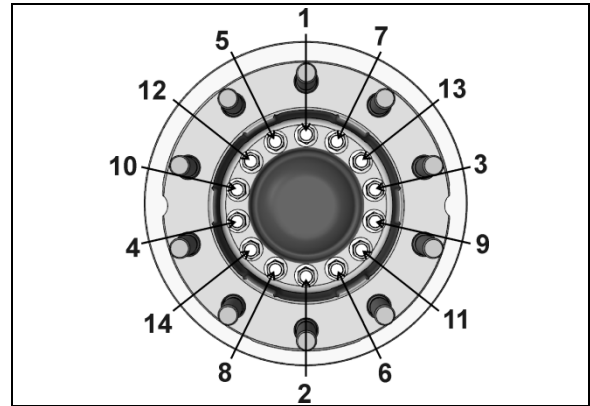

FIGURE 23: HUB FLANGE HEX CAP SCREW TIGHTENING SEQUENCE
12. Secure hub flange and rotor to unitized hub bearing using 14 hub flange cap screws. Torque to 183±9 lbf-ft. Refer to FIGURE 23 for tightening sequence. **NOTE: discard bolts that start to show signs of deformation in the threaded area or beneath the head of the bolt.**